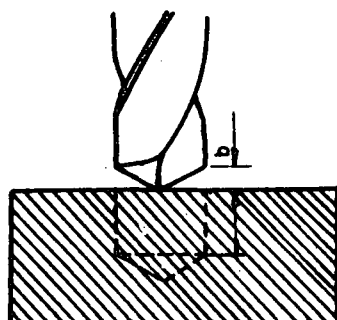

Fig. 7
- b) Turn the adjusting nut so that its distance from the stop is equal to the length of the tip of the drill plus the depth of the hole (Fig. 7).